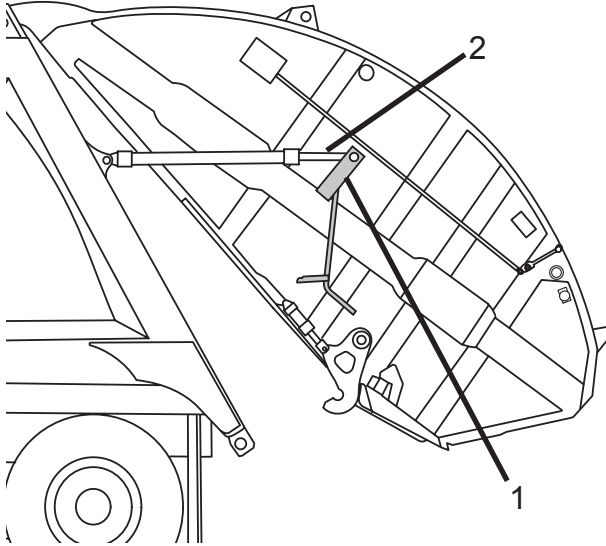

Figure 47
4. Open the tailgate just far enough to allow the tailgate prop (Figure 47, Item 1) to fit around the cylinder rod (Figure 47, Item 2).